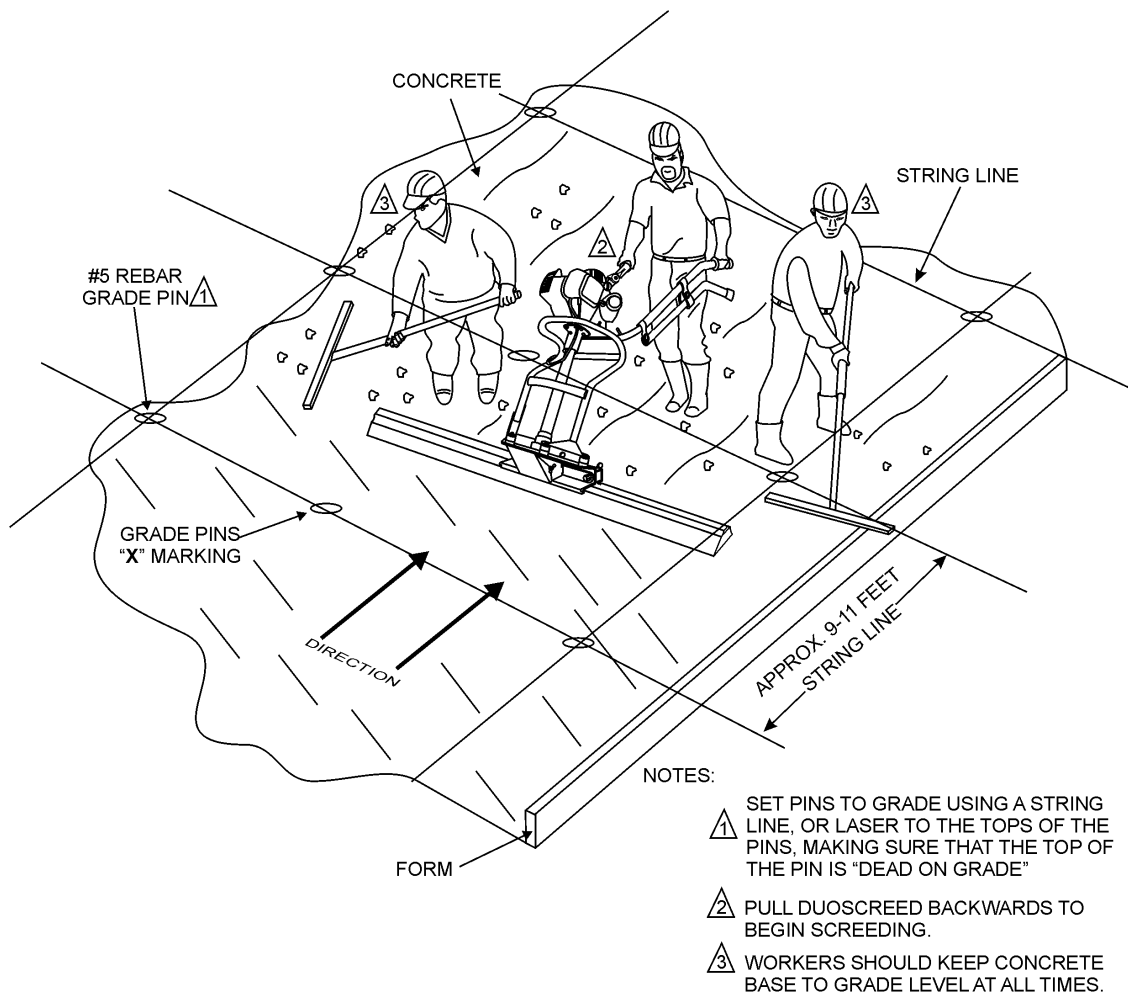

Figure 15. DuoScreed On Forms and Grade Pins
2. Prepare a grid of #5 rebar pins (Figure 15) equally spaced approximately every 9 to 11 feet. If a 10 ft. screed blade is going to be used space the grade pins every 9 feet, if a 12 ft. screed blade is required, space the grade pins every 11 ft. Make sure to drive the pins deeply into the ground.